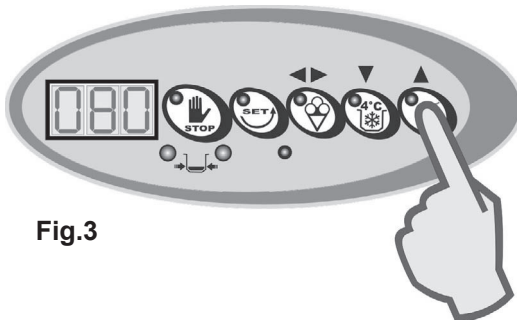

Fig.3
6. If you do not wish to change the value of the selected step, press "**CREATIVE** (▲)" to directly access the following step (Fig. 3).